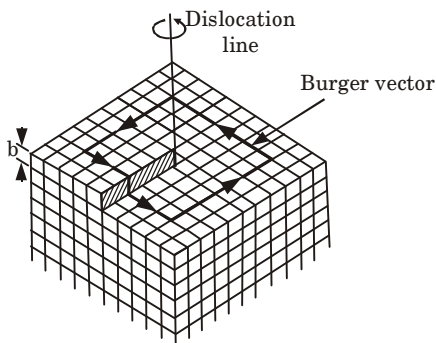

Fig. 1.14.2. Screw dislocations with Burger vector.
1. The formation of a screw dislocation is shown in (Fig. 1.14.2).